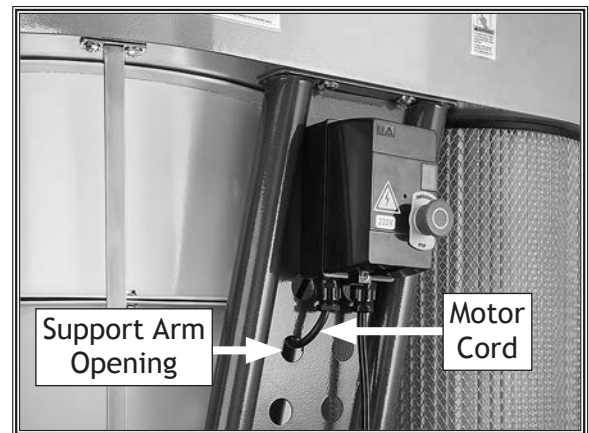

Figure 31. Magnetic switch attached to support arm.
- 32. Tuck loose wires into magnetic switch cover so none can be crimped when cover is re-attached, and then replace magnetic switch cover and tighten (2) Phillips head screws loosened in Step 30 to secure.
- 33. Thread motor cord through support arm opening and connect to matching plug from motor under impeller housing (see Figure 31).